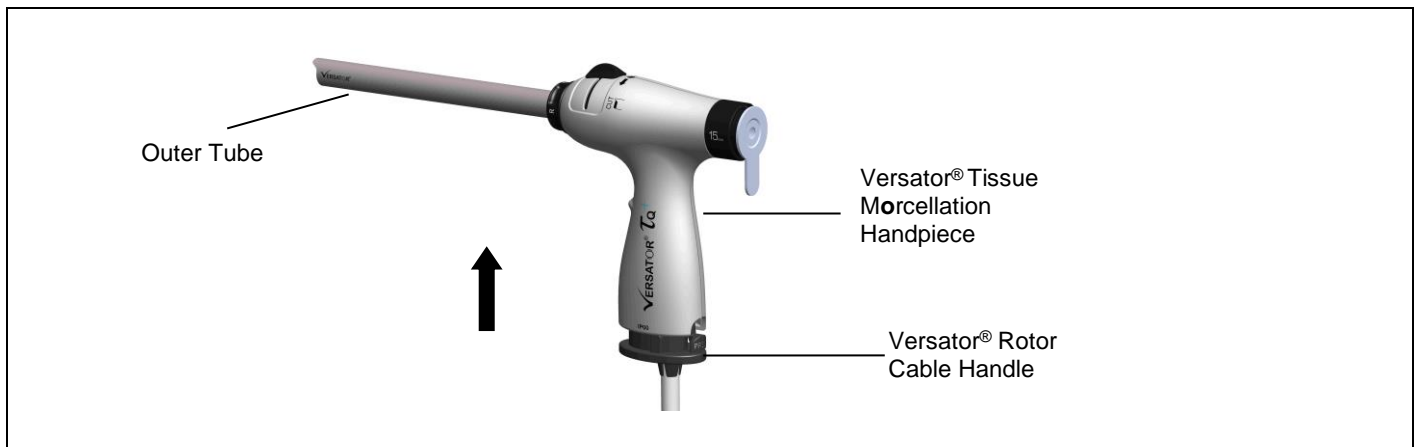

Figure 17: Connecting Rotor Handle into VERSATOR® Tissue Morcellation Handpiece
5.2.1.7 Connect the Rotor Handle into VERSATOR® Tissue Morcellation Handpiece in the sterile area Figure 17. (This step will be performed by the surgeon or the assistant in sterile area).
- 5.2.3.5 After connection, switch ON the mains from the wall socket. Now TURN ON the Rocker switch (located at the back of the VDU as shown in Figure 17) which will lead the front mounted push button to glow green. The frequently used functions on the VDU are "Power On", "Power OFF", "Speed control" and "Direction Control".
- 5.2.3.9 Connect VERSATOR® Tissue Morcellation Handpiece to VERSATOR® VDU in the sterile area using Rotor as shown in Figure 17. For more details, please refer Section 6 of VERSATOR® IFU (VR-V-0118) Handpiece and Rotor.